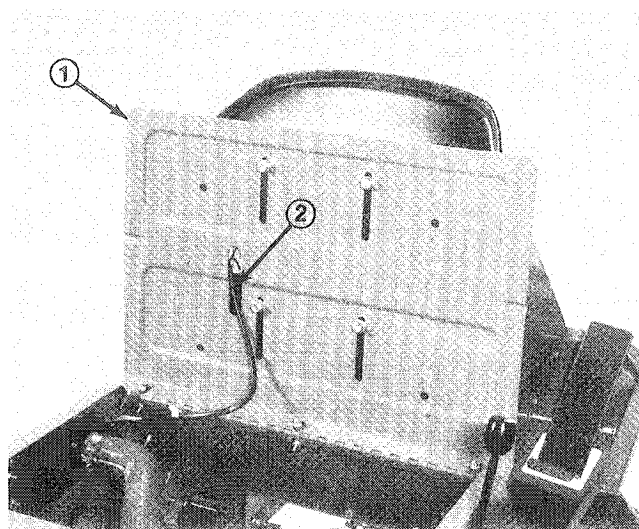

Figure 2
2. Position seat onto seat plate aligning mounting holes and routing seat switch wire thru slot (Fig. 2).
3. Loosely secure seat to seat plate with (4) cap-screws, flatwashers and lockwashers.
4. Adjust seat to desired position, tighten capscrews and plug seat switch connector into wire harness (Fig. 2). Make sure wire harness is clear of lift arm and all moving parts.